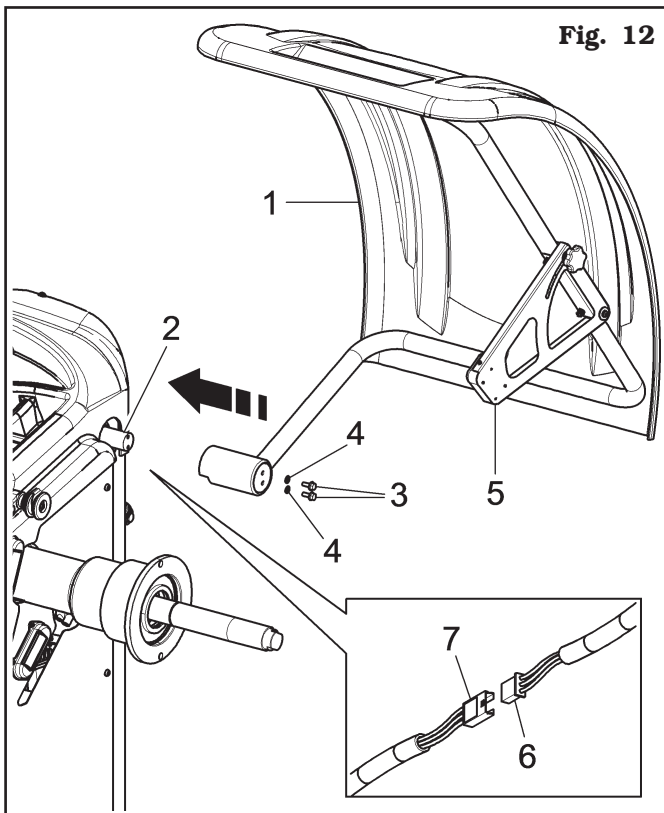

Fig. 12
1. Mount the protection guard (**Fig. 12 ref. 1**) to the support (**Fig. 12 ref. 2**) using the screws (**Fig. 12 ref. 3**), interposing the Belleville washers (**Fig. 12 ref. 4**).
2. Tighten the screws (**Fig. 12 ref. 3**) in order to make the guard (**Fig. 12 ref. 1**) lift or lower without bumping against the limit switch. Carry out the adjustment so that it's possible to manually guide the guard both during closing and opening.
3. Connect the ultrasound sensor cable (**Fig. 12 ref. 6**) of the automatic width measuring device (**Fig. 12 ref. 5**) to the pre-arranged connector (**Fig. 12 ref. 7**).